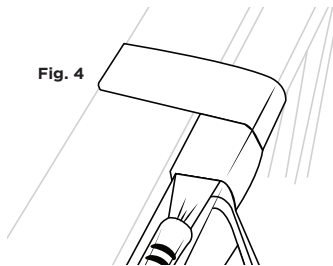

Fig. 4
- e. Wrap the longer securing strap around both rails of the ladder and secure the hook & loop. [fig. 4]